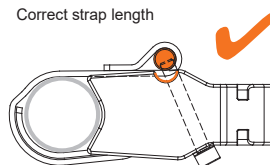

fig. 9
3. Adjust strap length to fit around seat stay (see fig. 9, 10). Strap end of bolt should be parallel with strap length marker (round indent). Wrap the end of strap (with built-in Allen bolt) around seat stay and push it through hole in other side of clamp—fine tune strap length as necessary.